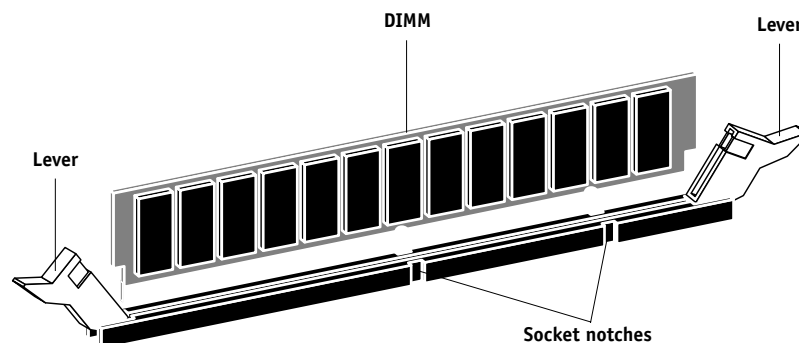

FIGURE 4-15 Releasing a DIMM
1. To release a DIMM, push outward on the levers on each side of the DIMM (see Figure 4-15).